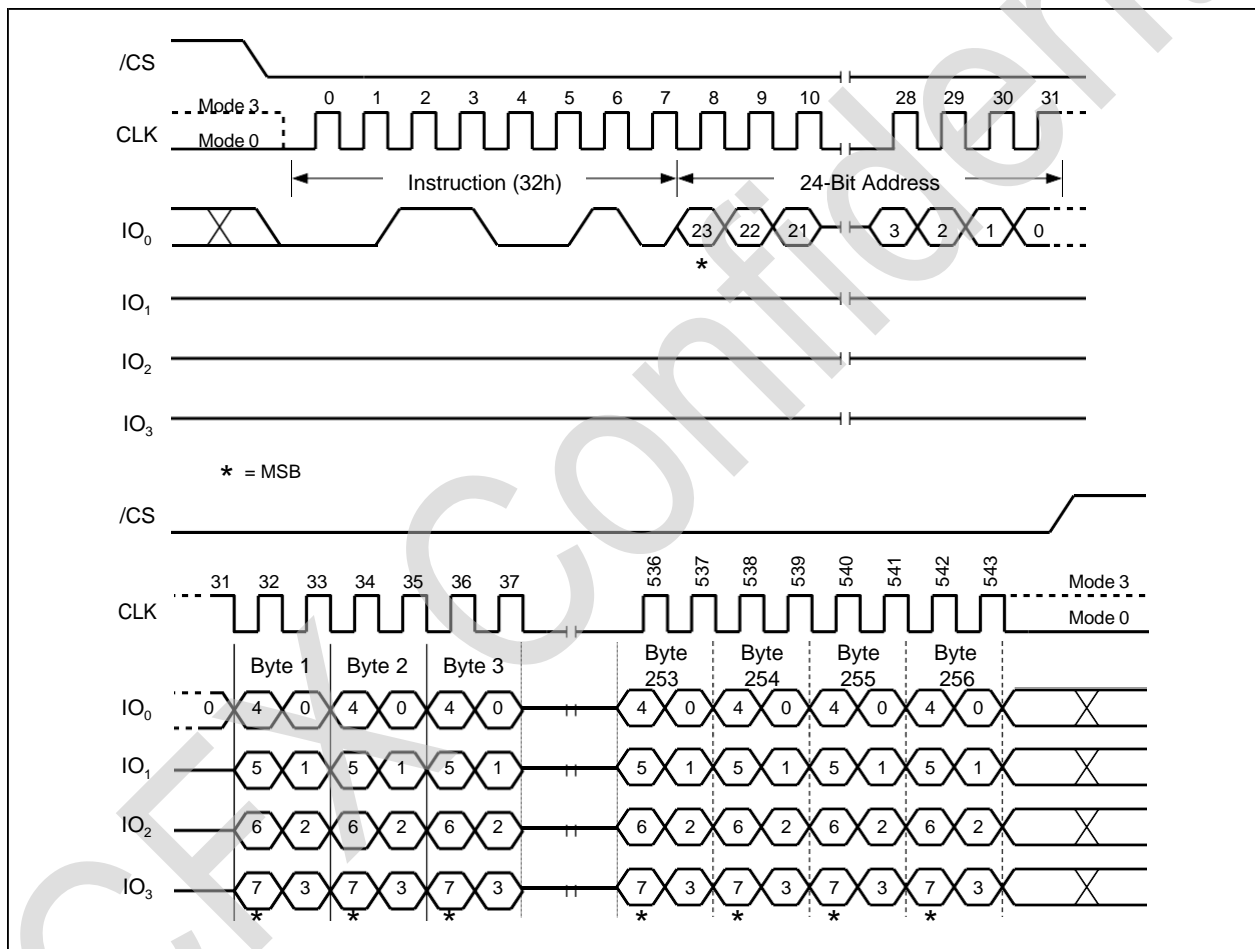

Figure 20. Quad Input Page Program Instruction
To use Quad Page Program the Quad Enable (QE) bit in Status Register-2 must be set to 1. A Write Enable instruction must be executed before the device will accept the Quad Page Program instruction (Status Register-1, WEL=1). The instruction is initiated by driving the /CS pin low then shifting the instruction code "32h" followed by a 24-bit address (A23-A0) and at least one data byte, into the IO pins. The /CS pin must be held low for the entire length of the instruction while data is being sent to the device. All other functions of Quad Page Program are identical to standard Page Program. The Quad Page Program instruction sequence is shown in Figure 20.